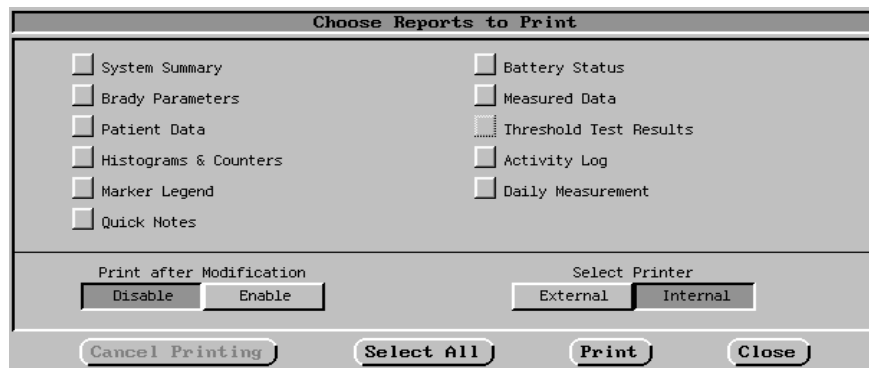

Figure 8-3. The Choose Reports to Print window.
1. Select the printer icon at the top of the screen to open the Choose Reports to Print window and display available report options (Figure 8-3).